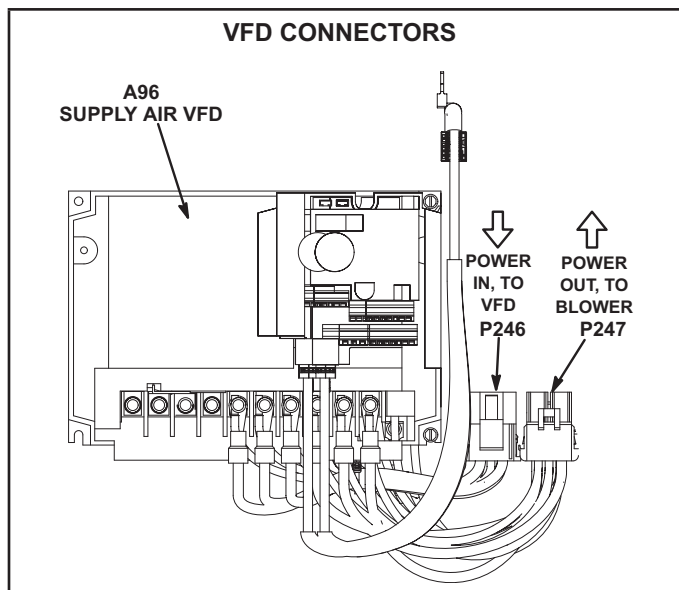

FIGURE 33
- 2 - Locate P246 and P247 connectors near the VFD. See FIGURE 33.